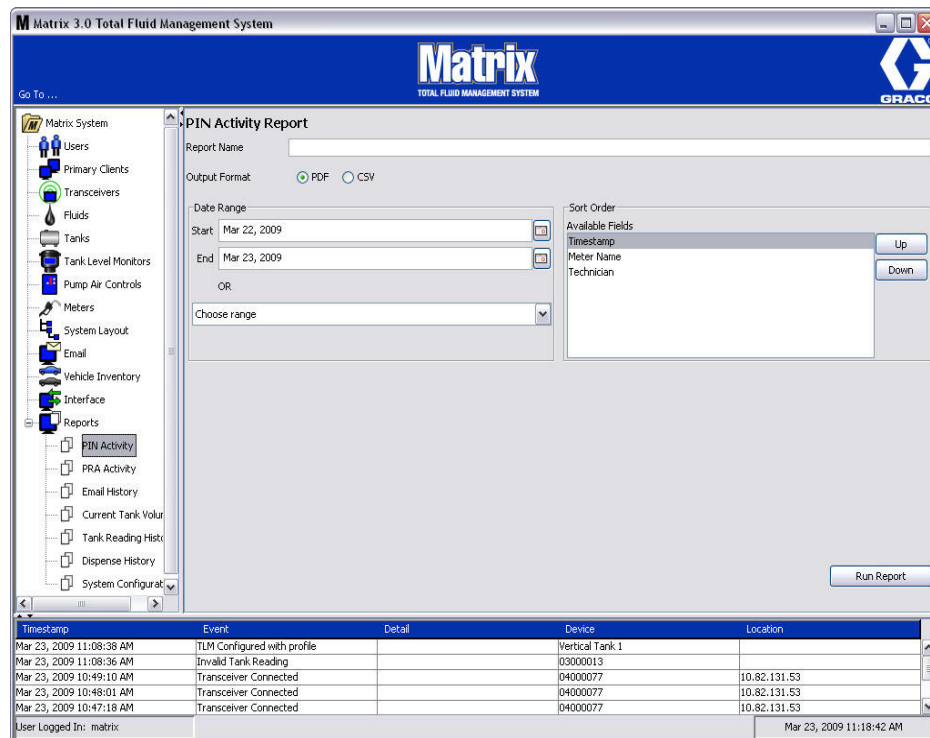

FIG. 167
- **PIN Activity (FIG. 167):**